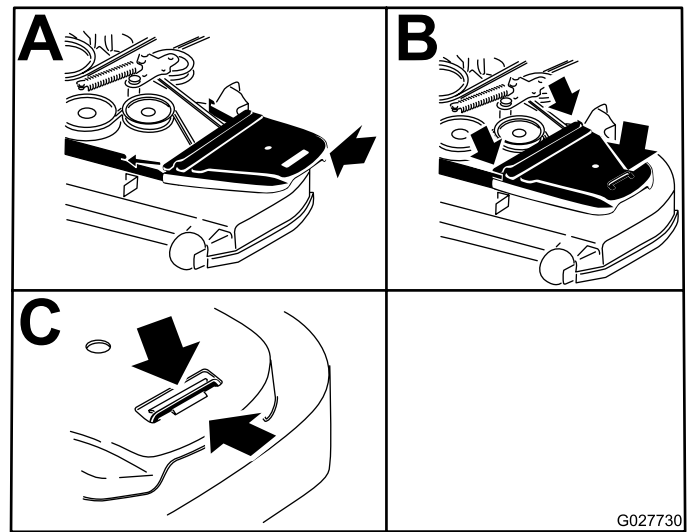

Figure 82
14. Install the belt covers and the bolts attached to them (Figure 82).